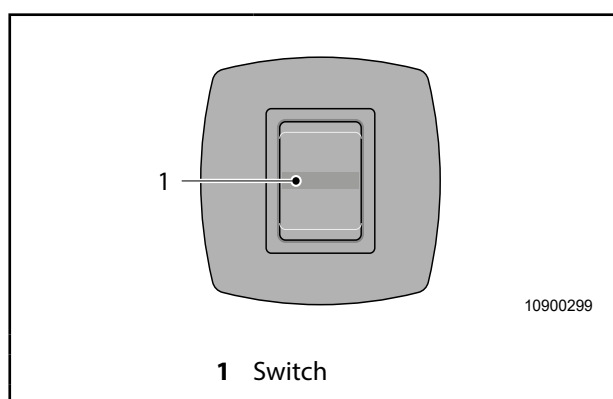

Fig. 43 Switch for retraction/extension of the flat screen TV set
The switch (Fig. 43, item 1) for retraction or extension of the flat screen TV set is located on the right of the seating group.